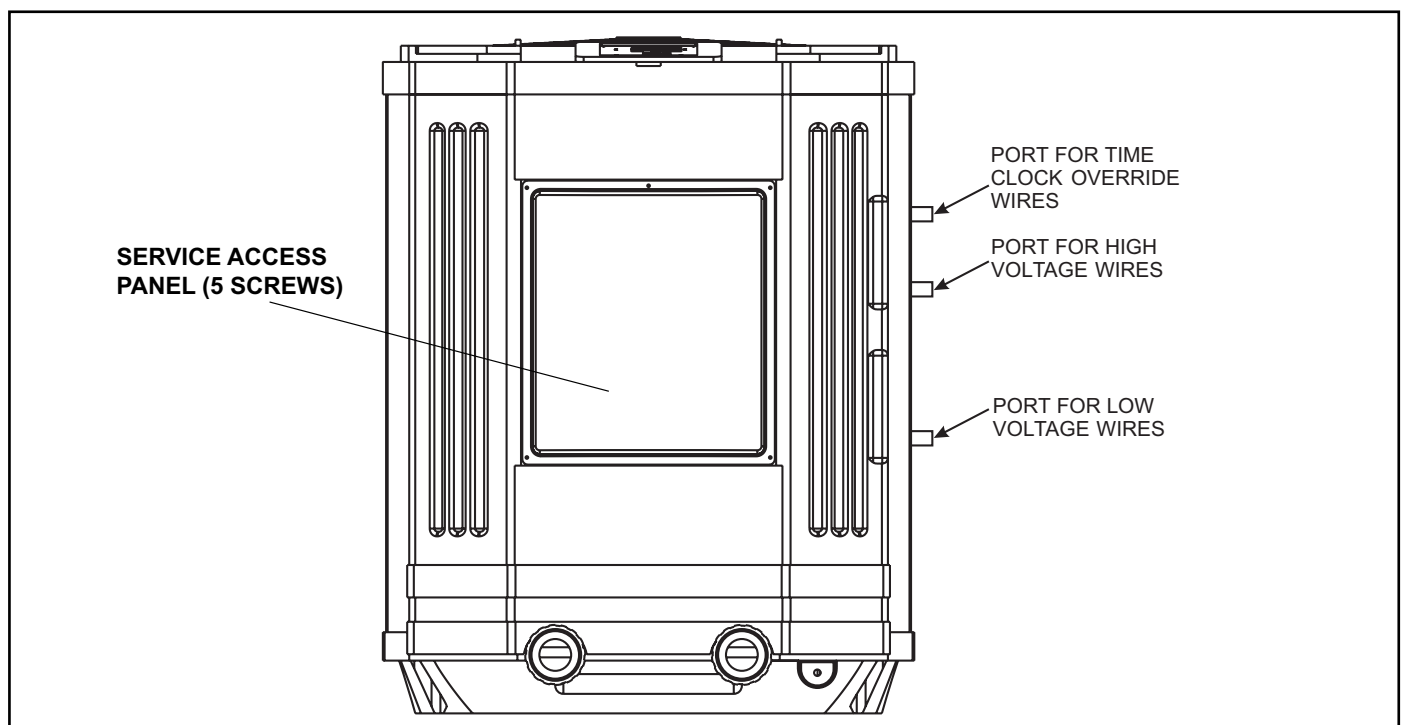

Figure 12. AE-Ti Heat Pump Front View
2. Remove the 5 screws that attach the service/access panel to the heat pump unit (see Figure 12).
3. Electrical supply lines must be run through watertight conduit. Run the wires and conduit from the power source and connect them to the conduit connection labeled “High Voltage Connection” on the right side of the heat pump. See Figure 12 for connection location.
2. Remove the 5 screws that attach the service/access panel to the heat pump unit (see Figure 12 on page 15). This will allow you to access the wires from the AE-Ti control panel for the remote control installation (see Figure 13).
3. Run the wires from the pool/spa control system into the conduit connection labeled “Low Voltage Connection”, located on the lower right hand side of the heat pump (see Figures 12 and 14).
NOTE One end of the wiring reserved to run into the conduit connection labeled “Low Voltage Connection”, located on the lower right hand side of the heat pump (see Figures 12 and 14).